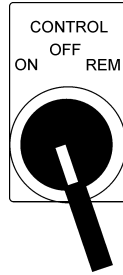

Figure 22. Pump Control Switch
- Turn the Pump Control switch (Figure 22) to the "ON" position, a **thumping** sound (cylinder stroke) should be heard. The thumping sound represents the number of strokes per minute (volume) of the pump.
- Turn the Control Off switch (Figure 22) to the "OFF" position.